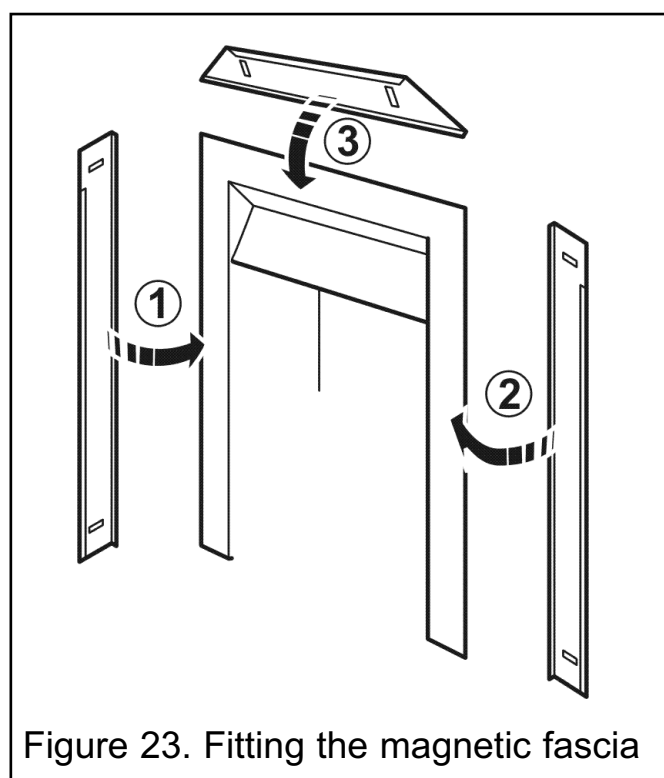

Figure 23. Fitting the magnetic fascia
3. Locate the side trims as in figure 23.
4. Locate the top trim as in figure 23.
5. The Siva fascia trim is already assembled and can be located as in Figure 23 but all in one piece.